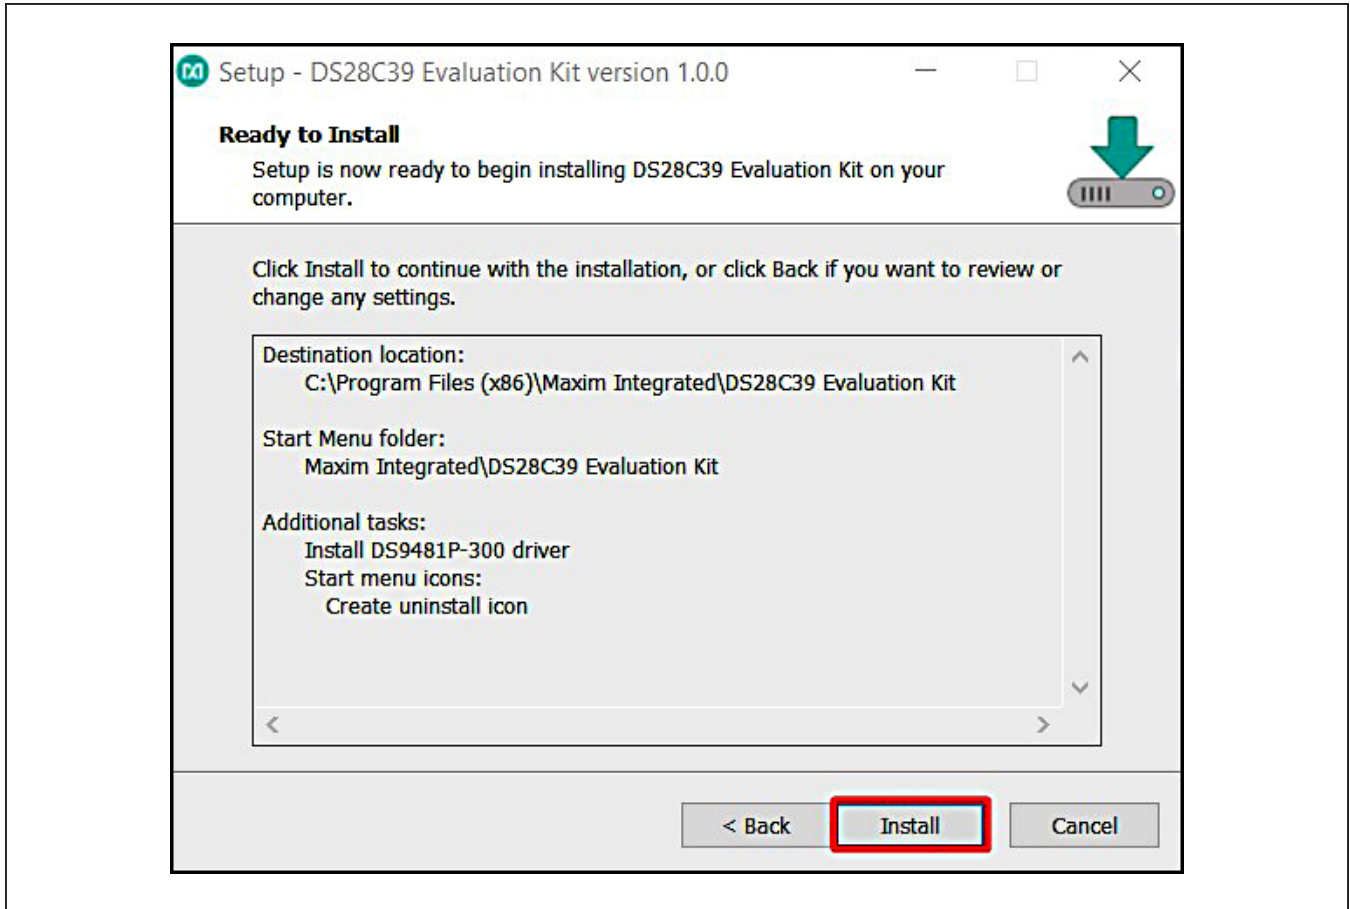

Figure 5. Ready to Install
6) Next click on **Install**. A new window pops up to show the installing progression (Figure 5).